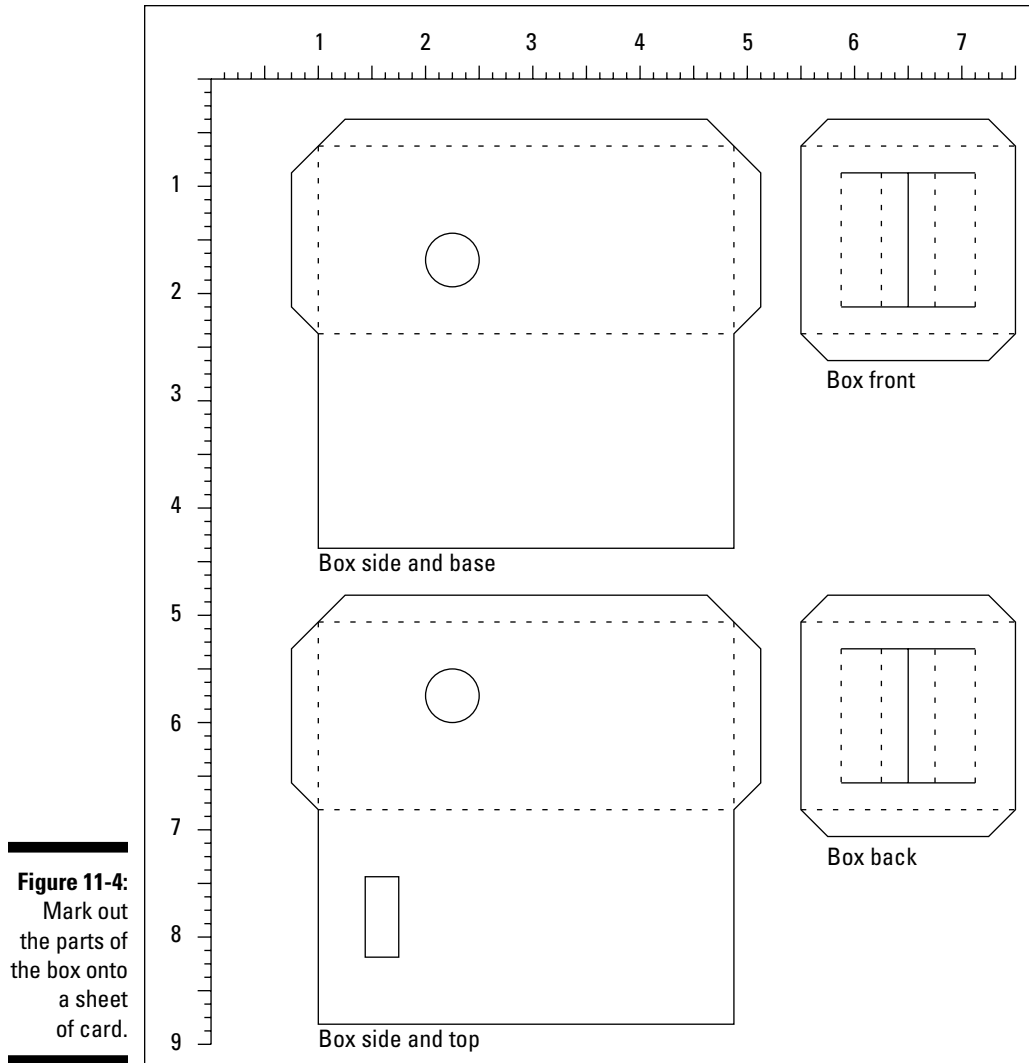

Figure 11-4:
1. **Copy the box templates onto a sheet of card (see Figure 11-4).**